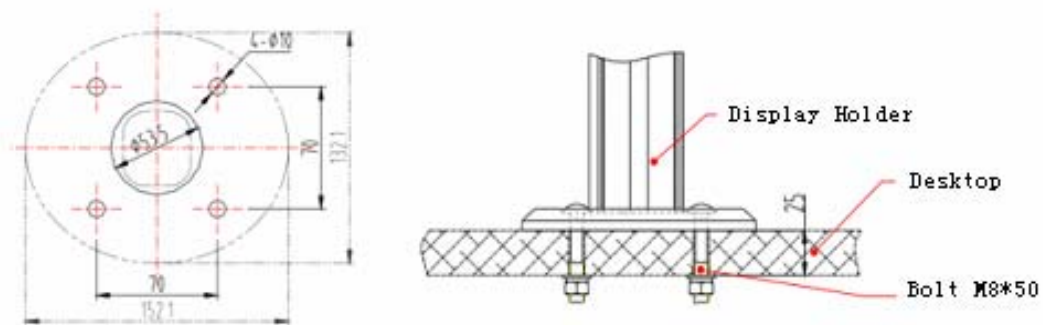

Figure 5-3 Holes planar graph and display holder installation graph
1. Install the display holder on the operation desk according to the project design requirements (take dual-screen display holder (up and down) as an example). Link and tighten with the down desktop via the screws of display holder. In Figure 5-3, the left figure shows the holes planar graph, and the right figure shows the display holder installation graph.